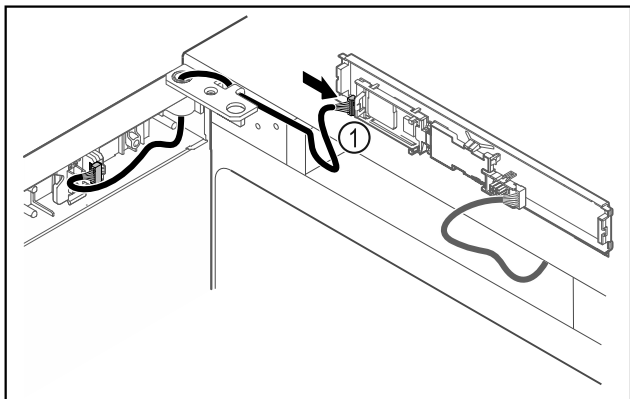

Fig. 46
- ▶ Connect the plug Fig. 46 (1) to the circuit board.